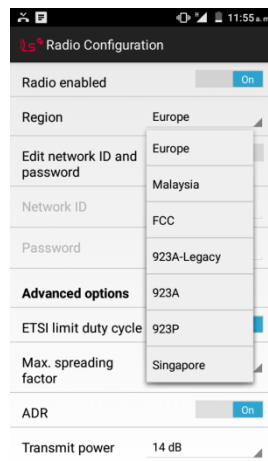

Figure 11: Radio configuration screen.
- 4) **Radio configuration.** This is the panel where radio configurations are set. You are required to set the correct region and country to comply with local regulations. See Table 9 of this user guide for the radio modes and configuration details. The network is identified by a Network ID, and protected with a password. All dataloggers and the gateway of an installation need to have identical settings (region and password). The default credentials of the radio network are specified in the Gateway Information Sheet (Figure 11). The advanced options should not be changed in the majority of installations. For more details on the advanced options, check Section 4 of this manual.